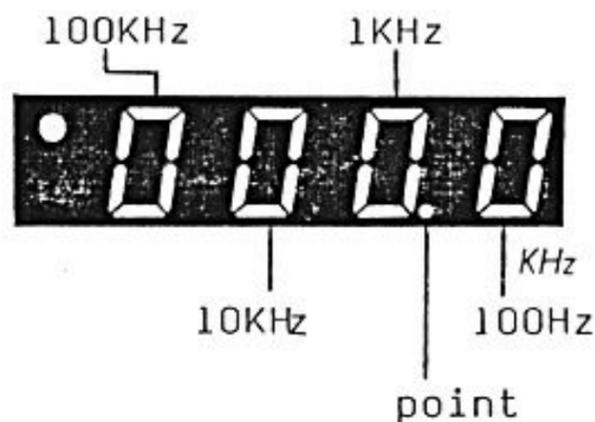

Figure 6
7. The relation between frequency and display.(on 10m Band) As show on figure 6, if setting on 28MHz, display will show 28.5000MHz, and if setting on 29MHz, will show 29.5000MHz.